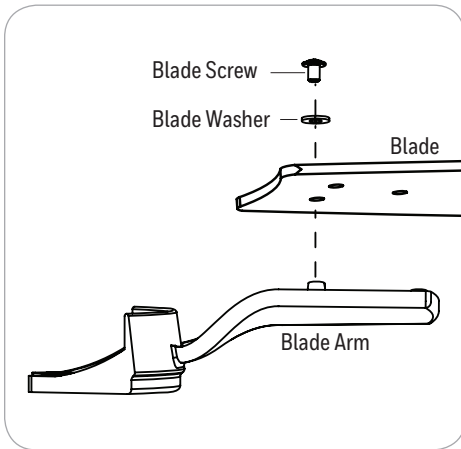

Figure 5.4
4. Partially insert the blade screws along with lock washer and blade washer through blade and into the blade arm. Tighten each blade screw starting with the one in the middle (Figure 5.4). Repeat this step for the remaining blades and blade arms (Figure 5.4).